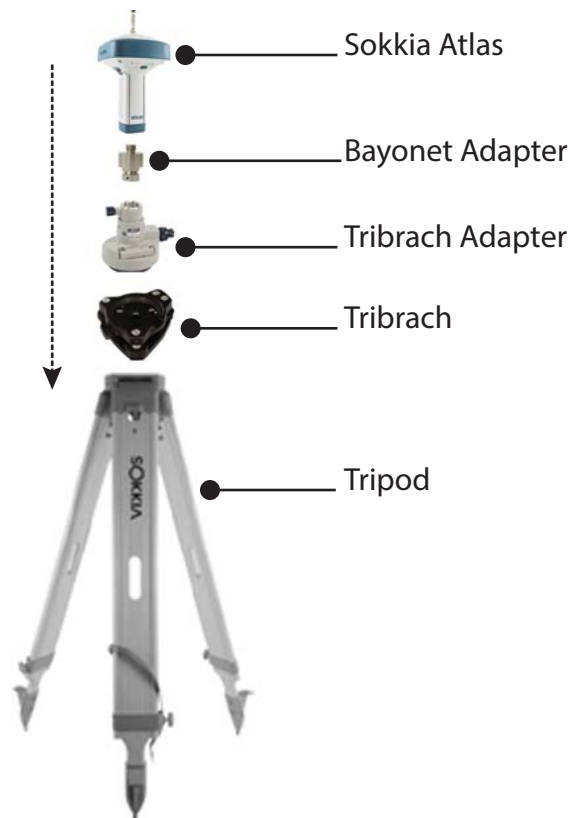

Figure 31: Attach All Components to the Tripod
2. Attach the tribrach, tribrach adapter, and bayonet adapter to the tripod (Figure 31).